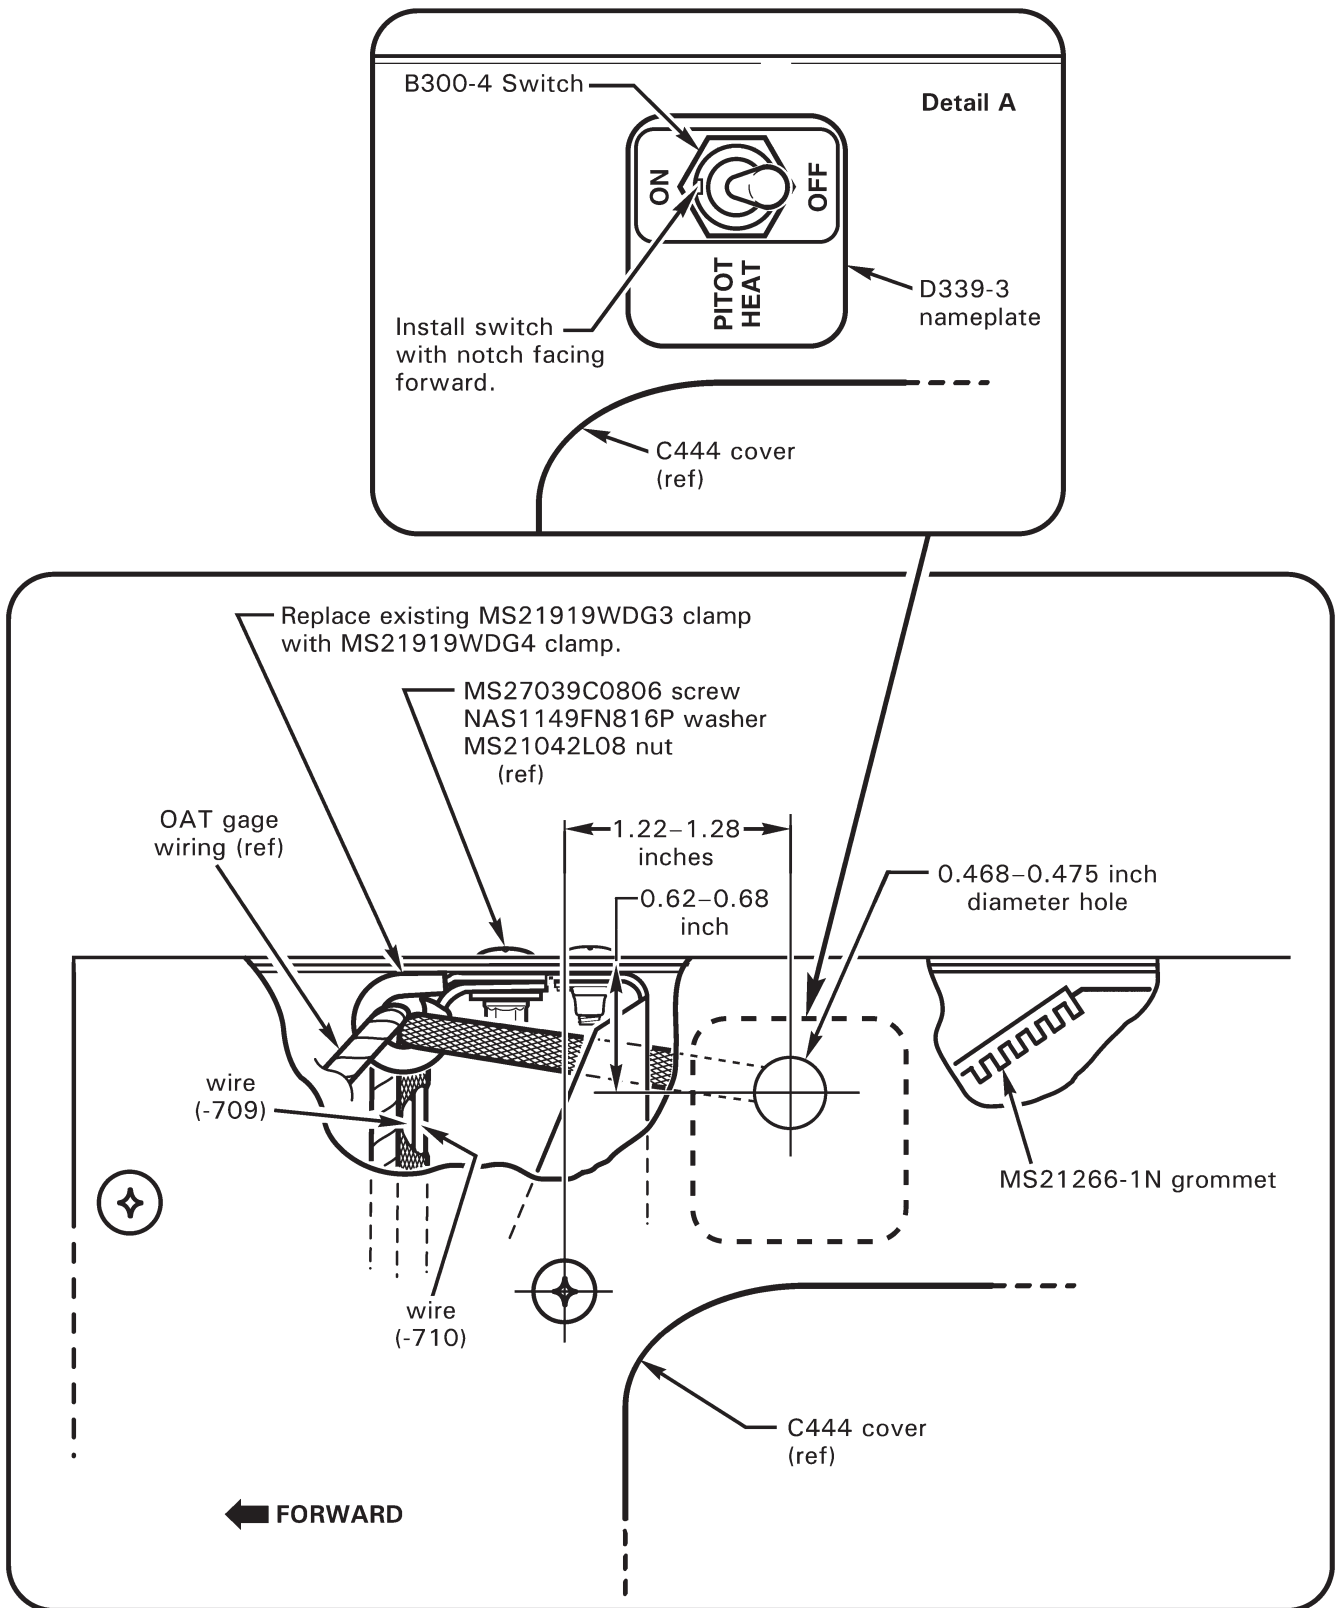

FIGURE 1 Cyclic cover switch installation
3. Refer to Figure 1. Locate and drill 0.468–0.475 inch diameter hole in C444 cyclic box cover. Deburr hole & clean up debris. Install B300-4 switch and D339-3 nameplate as shown in Detail A.
4. Trim MS21266-1N grommet to fit cyclic box edge (approximately 2.5 inches). Install grommet using B270-8 adhesive as shown in Figure 1.